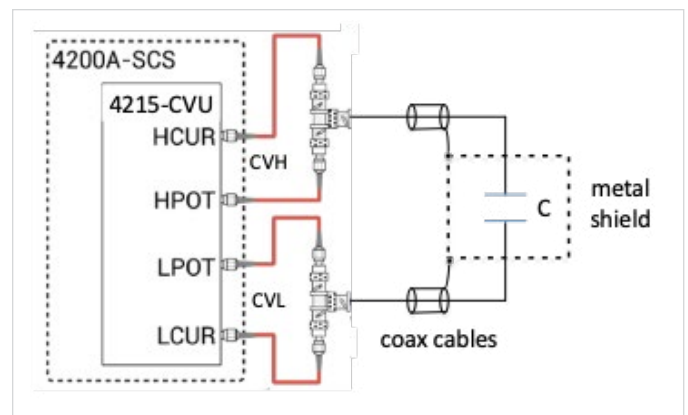

Figure 1. CVU connections for two-wire sensing.
The CVU configured for two-wire sensing is shown in **Figure 1**. The HCUR and HPOT terminals are connected to a BNC tee to form CVH (HI), and the LCUR and LPOT terminals are connected to form CVL (LO).